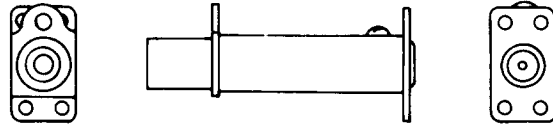

Fig. 26—498A Jack
**2.21 498A:** This is a coaxial-type jack (Fig. 26) which has the center conductor arranged for soldered wire connection. The outer conductor is electrically common with the mounting plates. The test voltage is 2000 volts ac. This jack forms a part of the 19A and B pads. The 498A jack is designed to be used with the 358A or similar-type plugs.